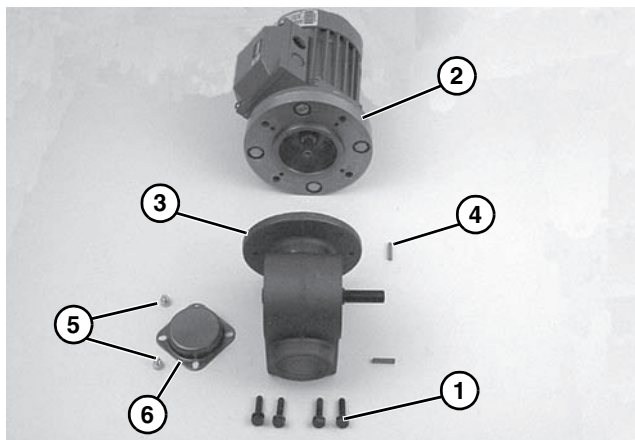

Figure 19
7. Remove four screws (**Figure 19, item 1**). Detach motor (**Figure 19, item 2**) from gear reducer (**Figure 19, item 3**). Retain motor output shaft key (**Figure 19, item 4**).
8. Remove two (2) screws (**Figure 19, item 5**) and detach output shaft cover (**Figure 19, item 6**).
11. With key (**Figure 19, item 4**) in keyway, slide motor (**Figure 19, item 2**) and gear reducer (**Figure 19, item 3**) together. Install screws (**Figure 19, item 1**) and tighten.